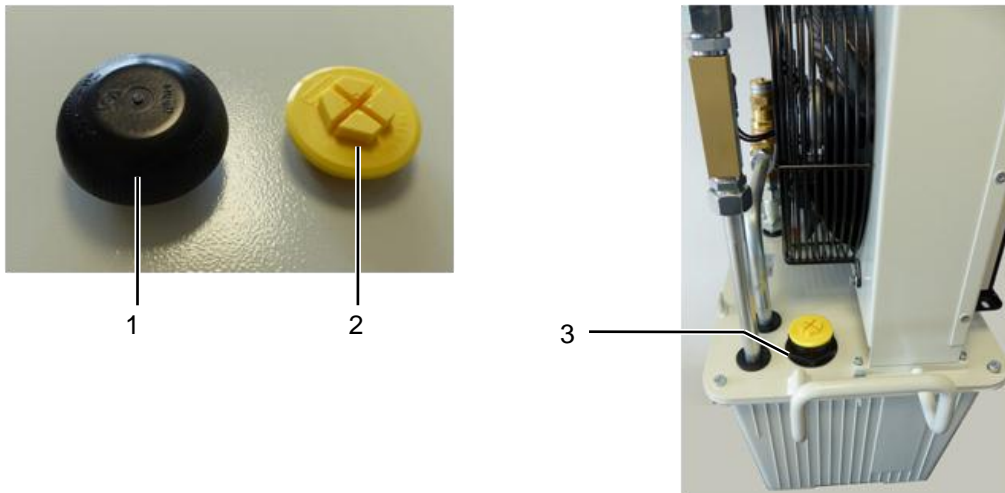

Fig. 10: Operation cap, transportation cap, filler plug of coolant container
- 1) Loosen cover nut using a metric AF36 wrench and dismount. Use second wrench of the same size at point 4 in Fig. 10 for holding the valve in place.